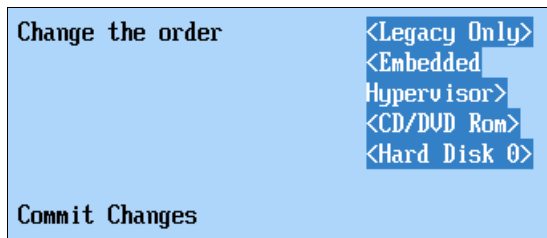

Figure 8-52 Example of a boot order
- d. Select **Change Boot Order**. Change the boot order so that Legacy Only appears at the top of the list and the Embedded Hypervisor option appears beneath it, as shown in Figure 8-52.
- e. Select **Change Boot Order**. Change the boot order to the boot order that is shown in Figure 8-52 on page 416.